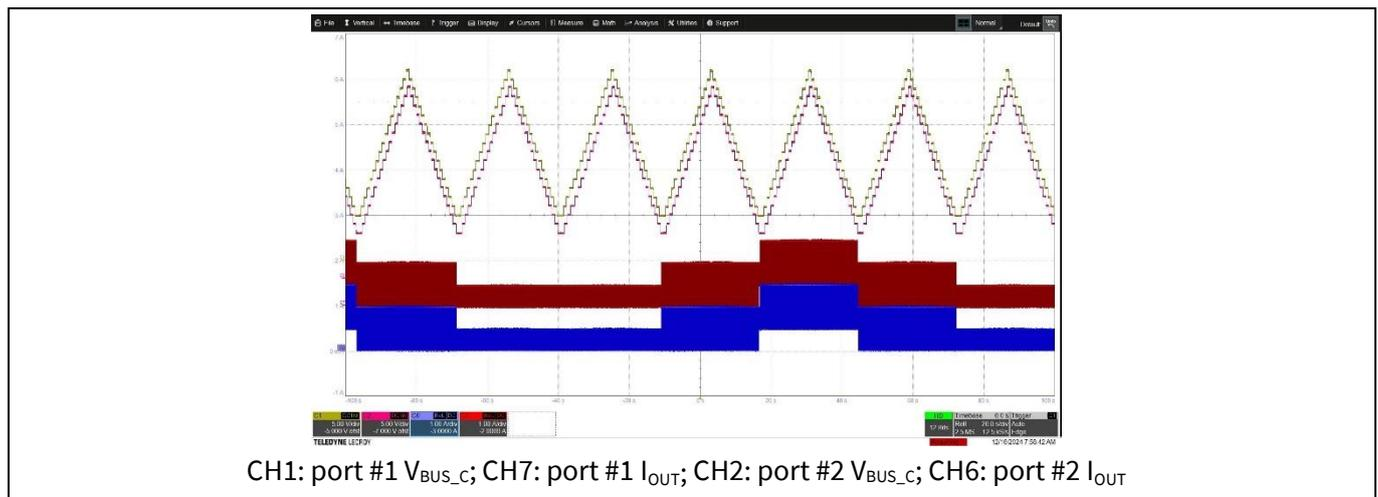

Figure 84 $V_{IN} = 230 V_{AC}$; V_{BUS_C} – continuously changing from 5.0 V–21 V (PPS) and vice versa; $I_{OUT} = 0 A$ to 4 A with 1 step
- Electrical stress test #1** $V_{IN} = 230 V_{AC}$; V_{BUS_C} – continuously changing from 5.0 V–21 V with 1 V step and vice versa (PPS); $I_{OUT} = 0 A$ to 2 A with 1 A step for a duration of 60 minutes. Captured waveforms are shown in Figure 84